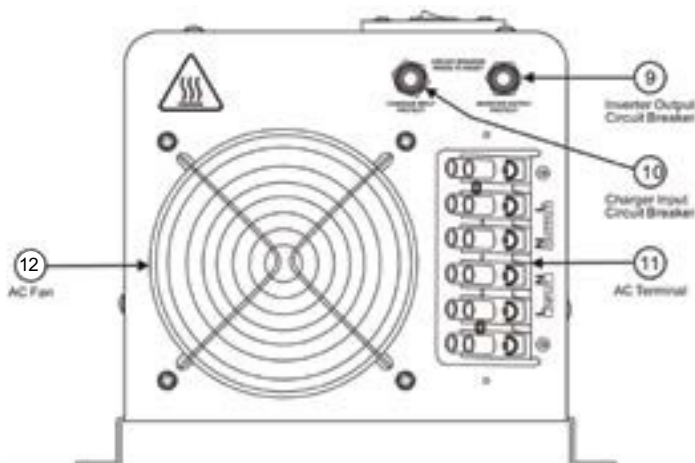

Figure 1-21
- AC Terminal Wiring: 10 to 5 AWG wire suggested for AC wiring terminal block connections. (See *Figure 1-21*) Consult a licensed electrician for your specific hardwiring situation.